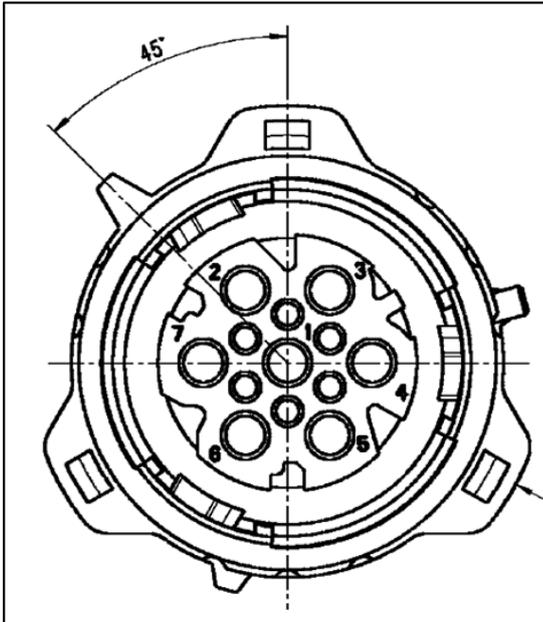

Fig. 1: Coupling point TDSK3 (round connector) - PIN assignment
- TDSK 3 - Round connector (see Fig.1):